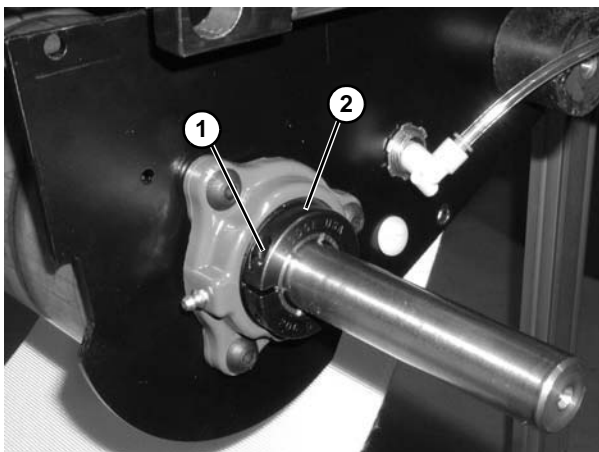

Figure 118
6. Loosen clamp screw (**Figure 118, item 1**) and remove bearing collar (**Figure 118, item 2**).